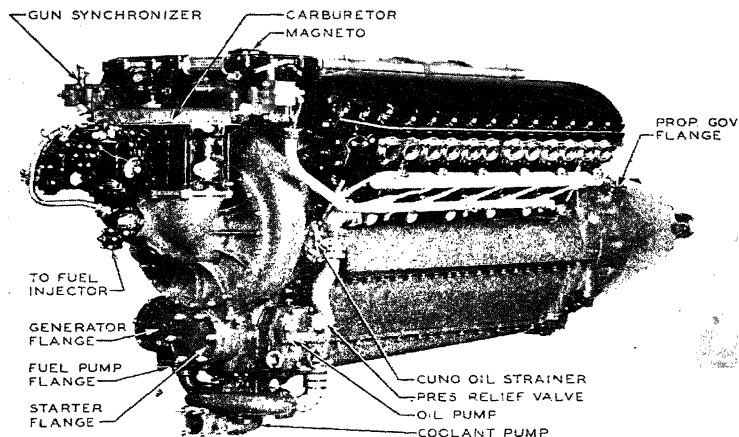

Fig. 2.—Right side of Allison V-1710 engine, showing location of accessories.
**Gun Synchronizers.**—Both Figs. 2 and 3 show the location of the magnetos and gun synchronizer. The speed of the synchronizer is half that of the crankshaft. It can be timed in increments of 0.71 deg. without dismounting it from the engine, by removing the cover plate in front of the plunger locking pin and *loosening* the nut on the cam drive shaft. *Do not remove the nut*; merely back it off three or four turns. With the propeller set at the desired position for firing, turn the synchronizer cam to proper position, tighten the nut, and replace the cover. A single-lobe cam is